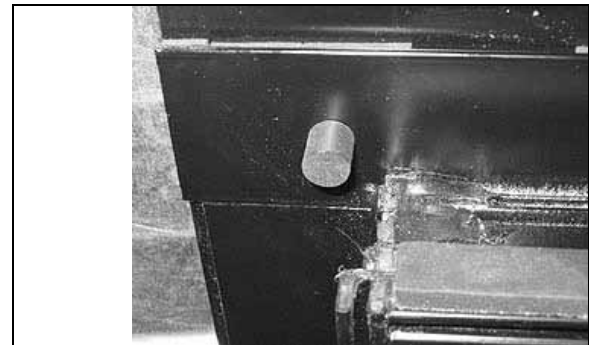

FIGURE 76 : SLIDING WINDOW - RUBBER BUSHING
3. Check for presence of 1 rubber bushing at each interior corner (see FIGURE 76) and 2 other bushings under the sliding window;